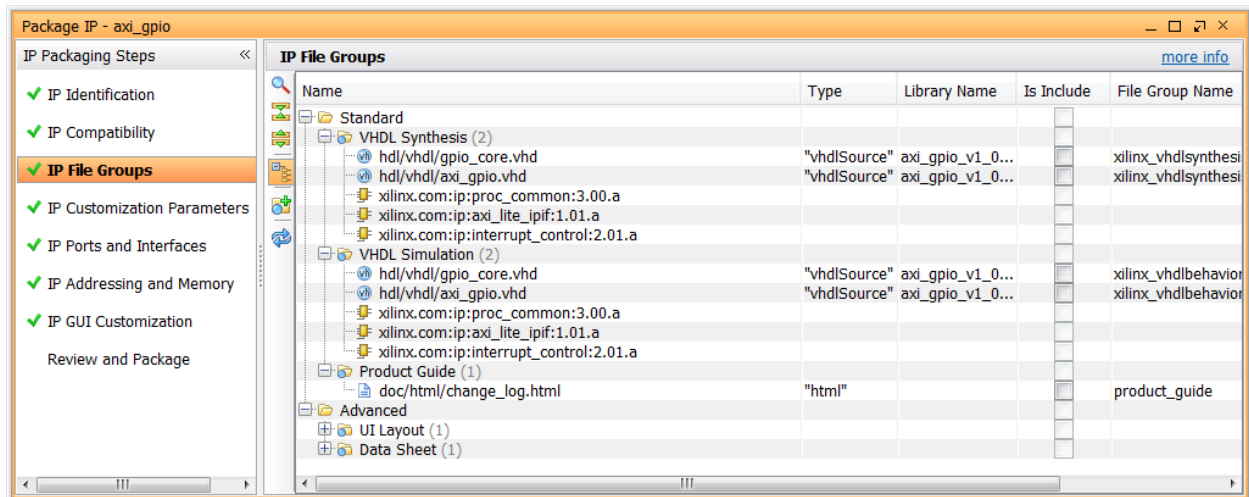

Figure 152: IP File Groups Page
13. Click **IP File Groups** to see the source files included for synthesis as well as simulation (FIGURE 152).